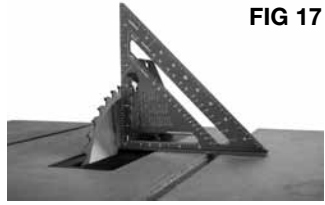

FIG 17
2. Raise the blade to the highest possible position by turning the blade control wheel (12) counterclockwise.
3. Loosen the bevel locking knob (10). Push the blade control wheel and turn clockwise as far as possible.
4. Place a combination square flush on the table and flush against the blade to determine if the blade is at a 90° angle to the table. See FIG 17.